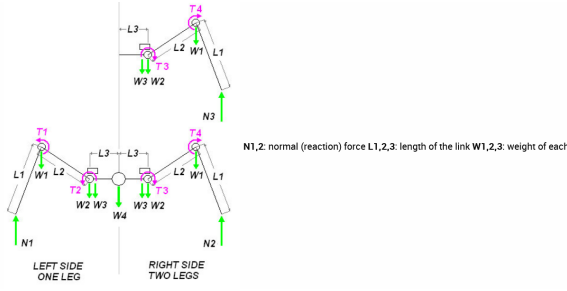
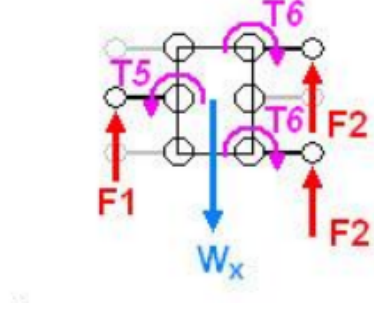

Fig. 1. Hexapod diagram with assumptions made
Fig. 2. Diagram for horizontal motor torque of a hexapod.
Before calculations for the final design could take place several assumptions regarding the forces and torques of the hexapod had to be taken into consideration. These can be seen in figures 1 and 2.
reader. As an example, write the quantity “Magnetization”, or “Magnetization, M”, not just “M”. If including units in the label, present them within parentheses. Do not label axes only with units. In the example, write “Magnetization (A/m)” or “Magnetization {A[m(1)]}”, not just “A/m”. Do not label axes with a ratio of quantities and units. For example, write “Temperature (K)”, not “Temperature/K”. See examples Fig. 1 and Fig. 2 in this document.